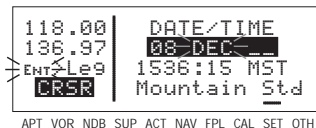

Figure 4-187
4. Move the flashing part of the cursor to the month field (middle three dashes) with the right outer knob, and select the proper month (figure 4-187).